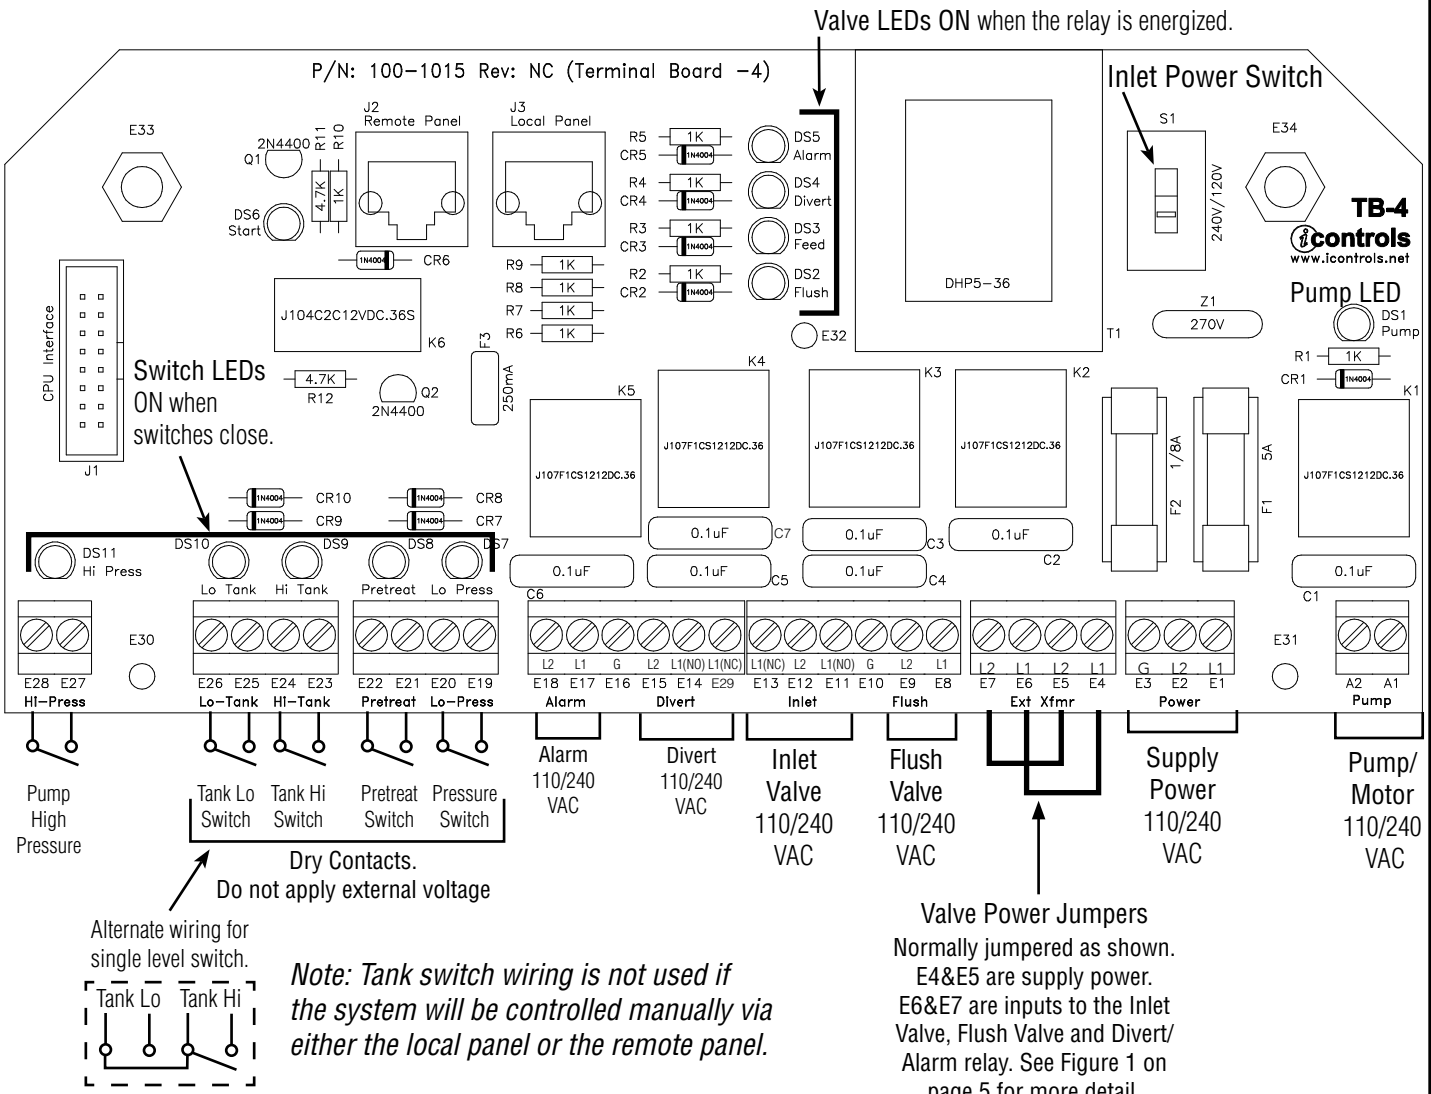

Figure 5. Conductivity Probe Installation
5. Install the conductivity cell in the permeate line. (See Figure 5 for conductivity cell installation instructions.)